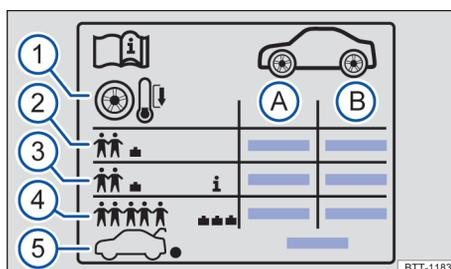

Fig. 179 Sticker with the tyre pressures.
→ Fig. 179:
- Always adjust the tyre pressures to the vehicle load condition → Fig. 179 ③.